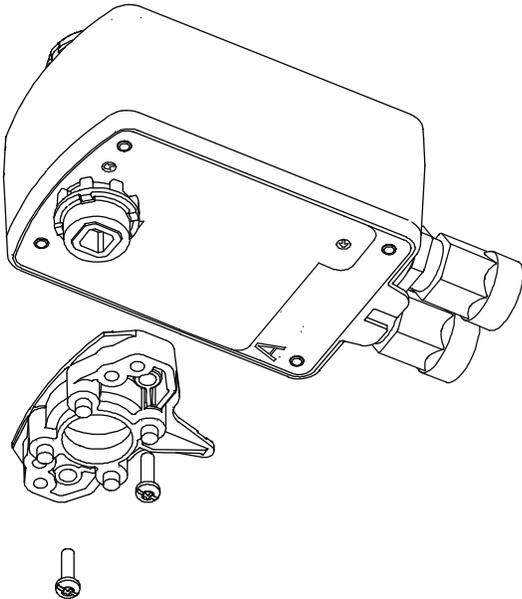

Figure 13: Installing the Linkage
- 3. Remove the linkage from Side B (Figure 13).
5. Install linkage base on Side A using the two #8-32 x 0.625 in. long screws (Figure 13). The recommended torque is 29 to 33 lb-in. (3.3 to 3.7 N·m).